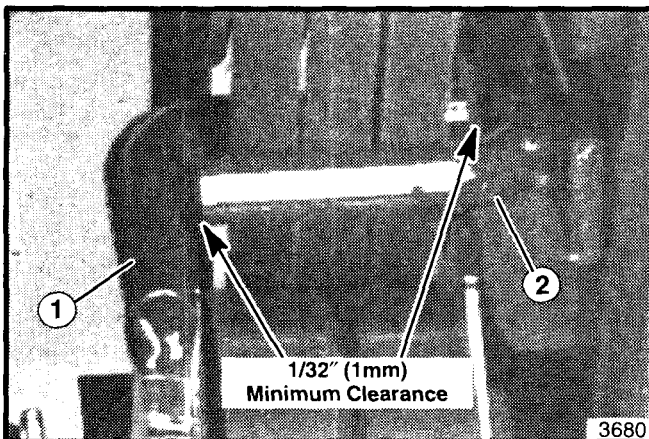

Figure 26. Belt Stop Clearance
24. Disengage the clutch lever. Check the tips of the two belt stops. There should be a minimum of 1/32" (1 mm) between the tips of the stops (see figure 26). If necessary, loosen reel idler pivot plate and adjust accordingly.